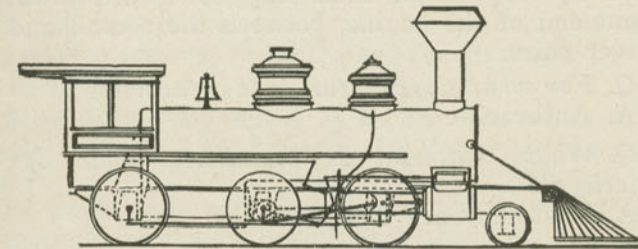
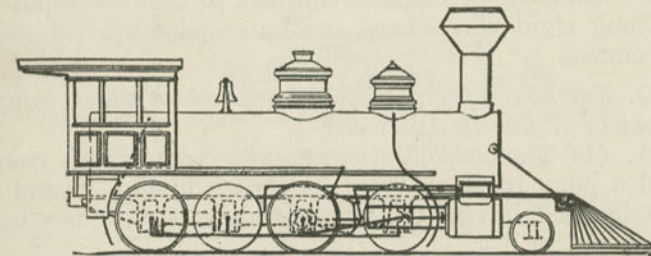
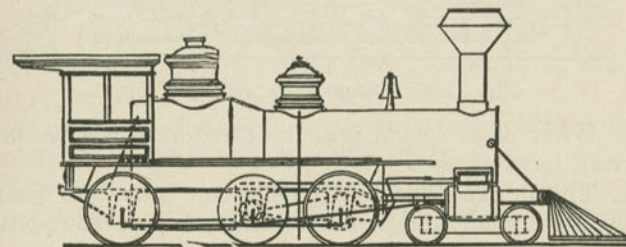
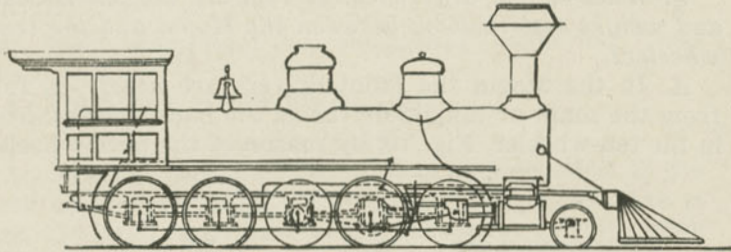

Fig. 8. Mogul Freight Engine with Tender.
Fig. 9. Consolidation Engine for Heavy Freight.
Fig. 10. Ten-wheeler for Fast Freight.
Fig. 11. "Decapod" for Heavy Freight.
A. More drivers are added, as in (1) the Mogul (Fig. 8), in which there are three pairs of drivers and a pony or two-wheel truck; (2) the consolidation, in which there are four pairs of drivers and a two-wheel truck (Fig. 9); (3) the ten-wheeler, in which there are three pairs of drivers and a four-wheel truck (Fig. 10); (4) the twelve-wheeler, in which there are four pairs of drivers and a four-wheel truck; and (5) the decapod, in which there are five pairs of drivers and a two-wheel truck (Fig. 11.)
A. The ten-wheeler is coming into great favor for this purpose; having six wheels coupled and a four-wheeled truck, as shown in Fig. 10, page 17.
*A.* (1) The consolidation, having eight wheels coupled and a pony truck in front as shown in Fig. 9, and (2) the decapod, having ten wheels coupled and a pony truck, as shown in Fig. 11.
*A.* In the Mogul the front drivers are nearly as far from the main or middle driver as the back drivers are; in the ten-wheeler, Fig. 10, by reason of the back-wheels,